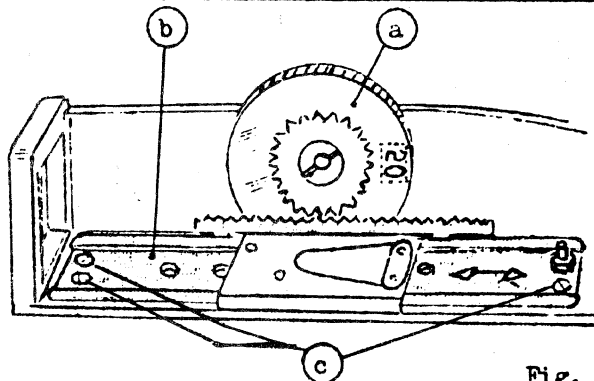

Fig. 1
1.1 Fitting the guide rail (fig. 1)